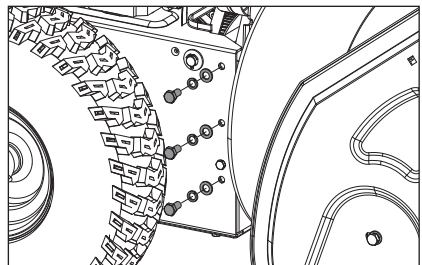

Figure 63
- Remove auger housing from engine base by removing three M8 x 16 bolts, flat and locking washers on each side. (Fig. 63)